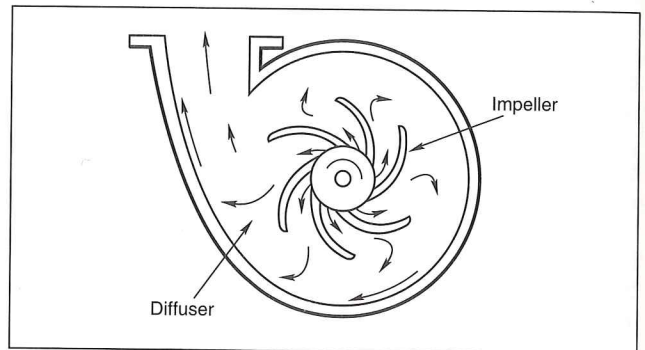

Fig. 9-10 — The high-speed rotating impeller in a centrifugal compressor forces air through a diffuser, where velocity decreases and pressure increases.
**Centrifugal compressors.** Best suited to moving large volumes of air, centrifugal compressors, Fig. 9-10, operate at relatively low pressures. They consist of a high-speed rotating impeller, a diffuser section where air velocity